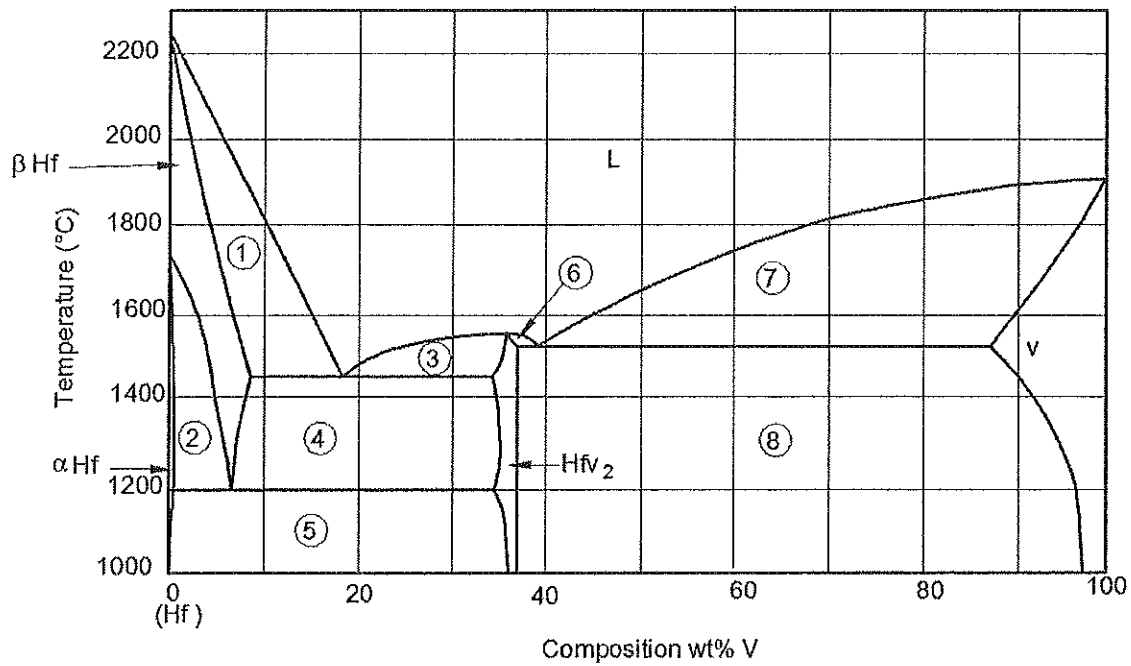

Fig. Q1
- (b) The Fig. Q1 below shows the Hafnium-Vanadium phase diagram. Using the phase diagram answer the following.